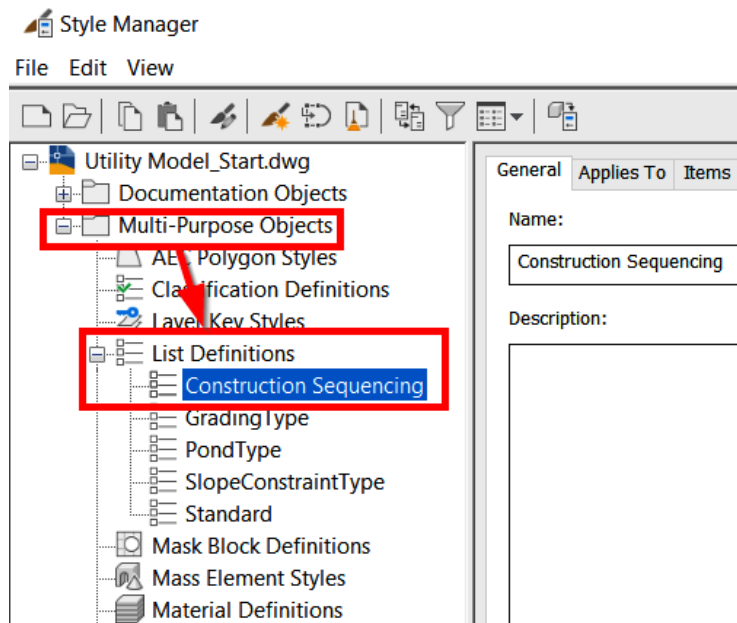

Figure 10.19 – New Construction Sequencing list
3. Once we have created our new list definition, let's give it the name **Construction Sequencing**, as shown in *Figure 10.19*.